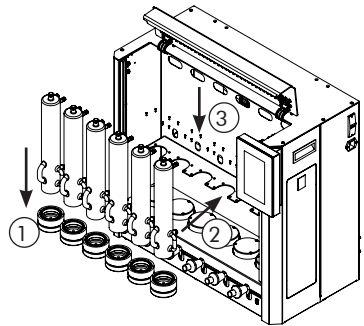

Fig. 17.2
- Fix randall condensers into the glass seal hub assembly as shown in Fig. 17.2.